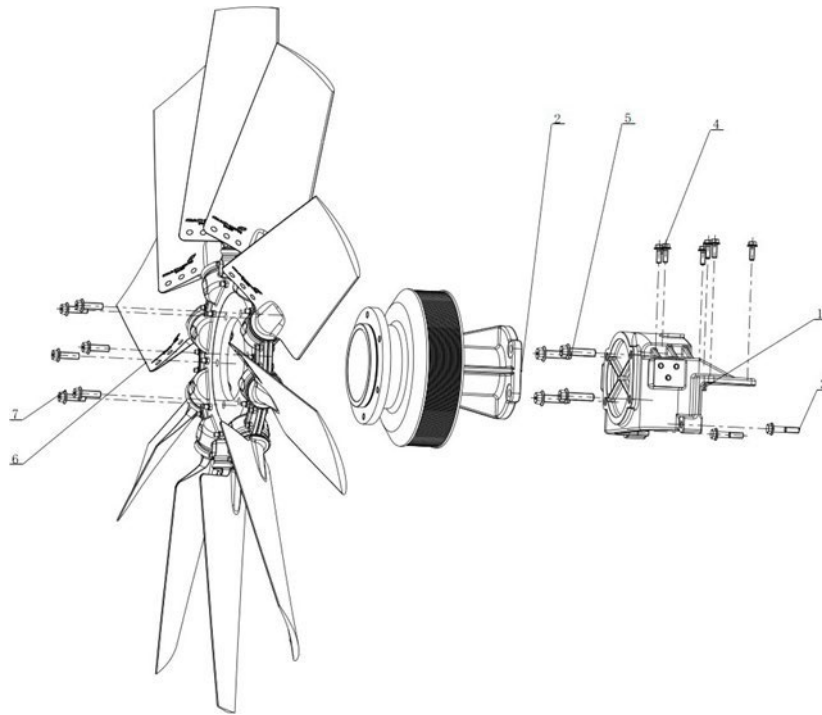

Figure 17. Fan Assembly
1. Remove the six fan bolts (Figure 17, item 7).
2. Remove the fan (Figure 17, item 6).